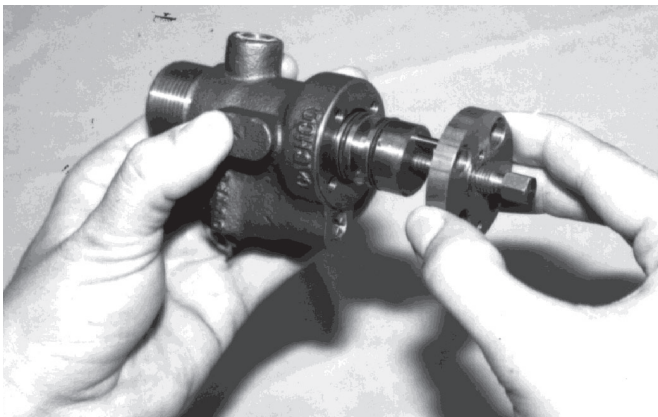

Figure 11
11. Slide the sensor sub-assembly (2) back into the housing (1) so as not to damage the sensor O-rings (5). The final position should have the sensor pin (2.4) directly above the center of the adjusting screw (2.3). Install the four end plate screws (2.5). See Figure 11.